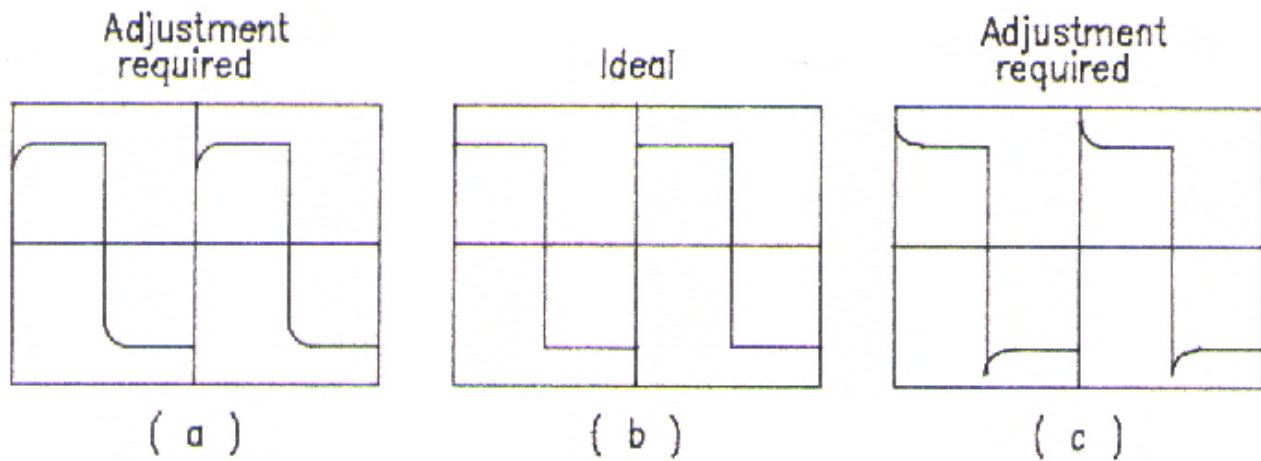

Fig. 11
- Adjust VC1 to make the displayed waveform become as Fig 11(b).
- g. Adjust VC2 to make the displayed waveform become as Fig. 11(b).